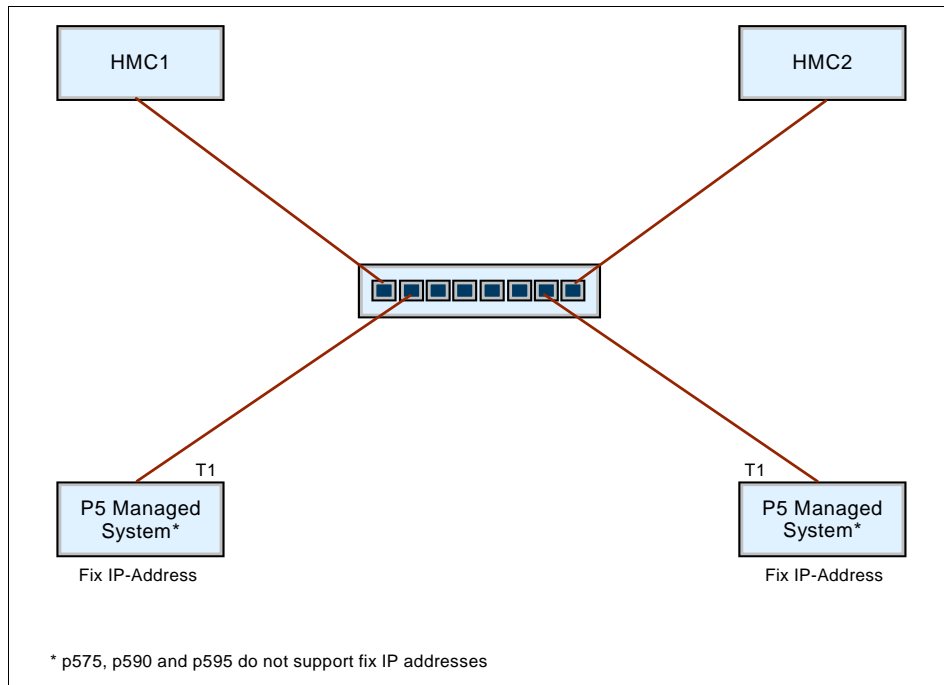

Figure 23 HMCs connected to the FSP using 1 network and static IP addresses
- ▶ Two HMCs on the same network, using static IP addresses is shown in Figure 23.
In Figure 23, all systems HMCs and CECs have their own fixed IP-address. So you do not need to consider in which sequence they has to be started.